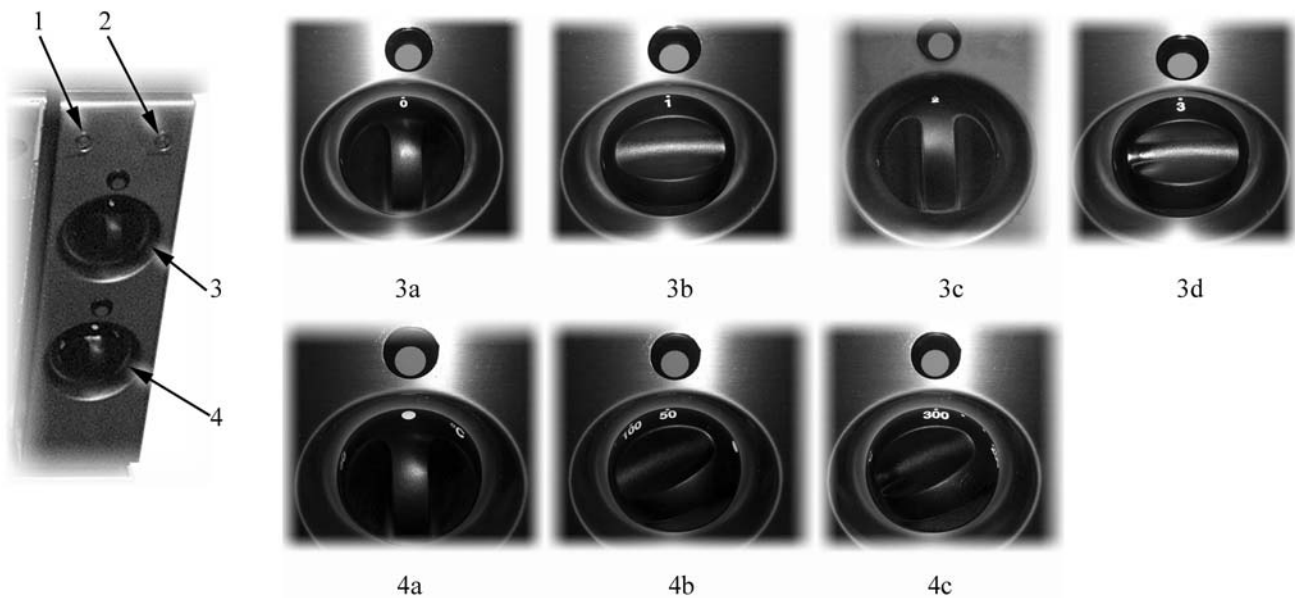

Fig. 6
Choose the heating direction on the knob indicated as (pos. 3 in Fig. 6). Set the cooking chamber temperature by turning the oven operating thermostat knob in clockwise direction (pos. 4b e pos. 4c in Fig. 6), the heating elements start to operate and the line pilot lamp (pos. 2 in Fig. 6) lights up together with the oven indicator lamp (pos. 1 in Fig. 6). When the selected temperature has been reached, the indicator lamp turns off. The oven temperature can be set between 50° and 300°C and to intermediate values.